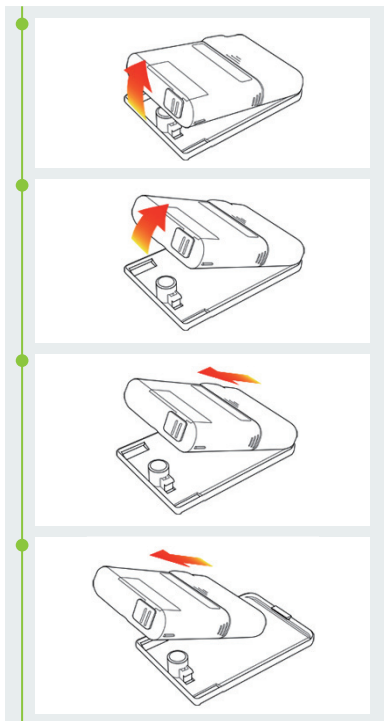
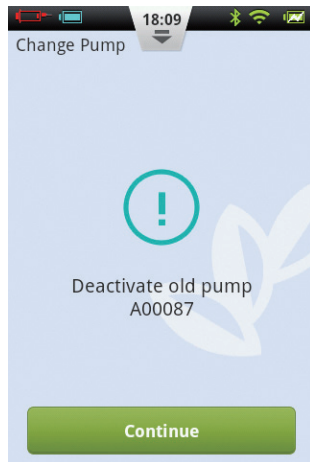

Figure 71
Figure 72
b) If this is not your first time using the wizard to connect a pump, the wizard will start with Figure 71. Remove the pump and reservoir from the infusion set as shown in Figure 72. Remove the old infusion set, apply a new one (Chapter 7.3) and press Continue. The next page will prompt you to